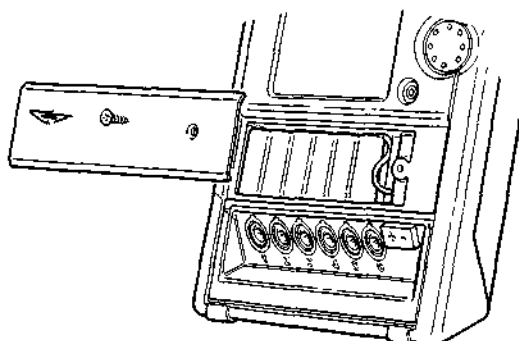

Figure 23. Battery cover screw
2. Remove the cover screw (Fig 23) and remove the cover.